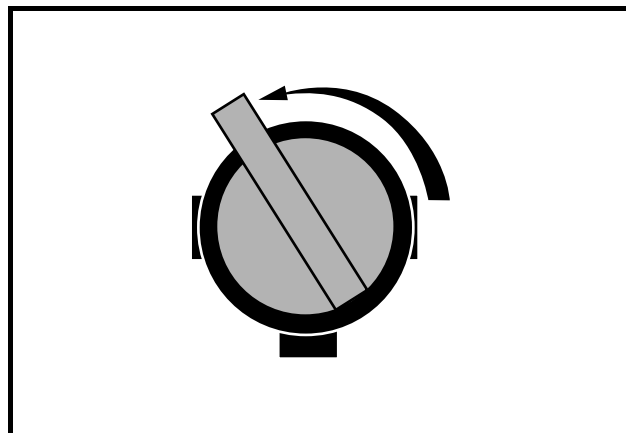

**Figure 11 Fuel Shut-off Valve – Closed (OFF) Position**
- Gasoline vehicles only: Turn fuel shut-off valve to the closed (OFF) position (Figure 11, Page 27).
- Gasoline vehicles only: Turn fuel shut-off valve to the closed (OFF) position (Figure 11).